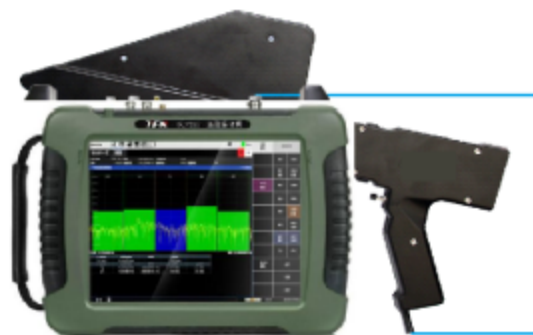

Figure 7.13 Schematic diagram of handheld DF antenna and RMT series spectrometer
Step 1. Connect the handheld DF antenna to the RF input port of the RMT series spectrometer, as shown in Figure 7.13: